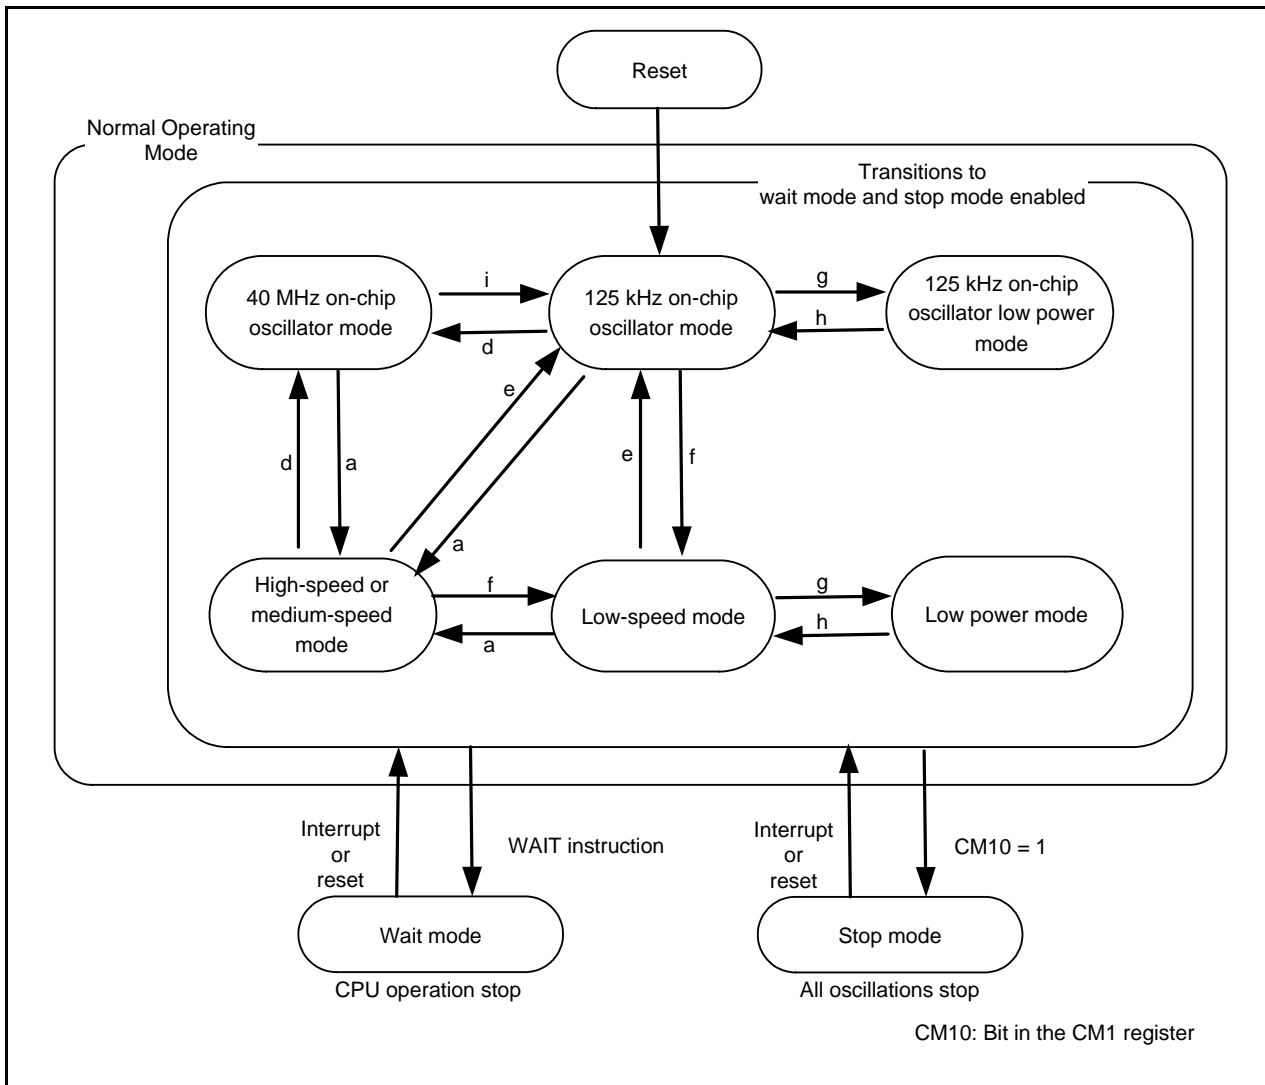

Figure 9.1 Clock Mode Transition
Figure 9.1 shows Clock Mode Transition. Arrows indicate possible mode transitions.
- To change the mode, follow procedures a, and d to i listed below. For details on register and bit access, refer to 9.2 "Registers". Letters a, and d to i correspond to those in Figure 9.1 "Clock Mode Transition".
- (1) Start the main clock and wait until the oscillation stabilizes. Refer to 8.3.1 “Main Clock” for details.
- (2) Set the CM06 bit to 1 (divide-by-8 mode).
- (3) Set the CM21 bit to 0 and the CM07 bit to 0 (main clock selected as CPU clock source).